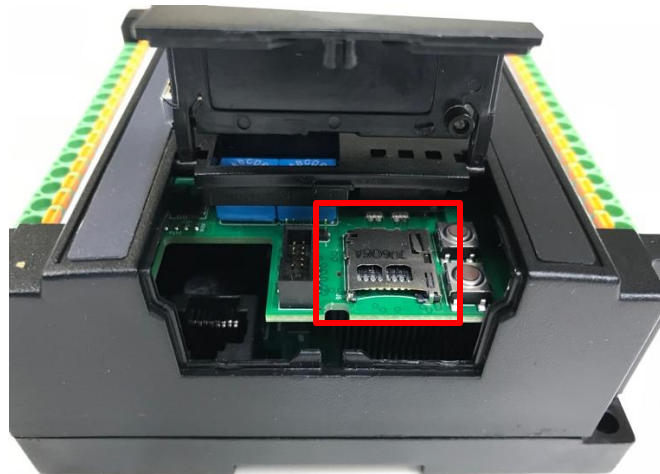

Figure 12.1 - Removable microSD Memory Card Slot
**To install a microSD card:** Align its 8-pin gold edge connector down, facing the circuit board of the RCC6512 unit as shown in **Figure 12.1**; then carefully push it all the way into the Memory slot. Ensure that it clicks into place.